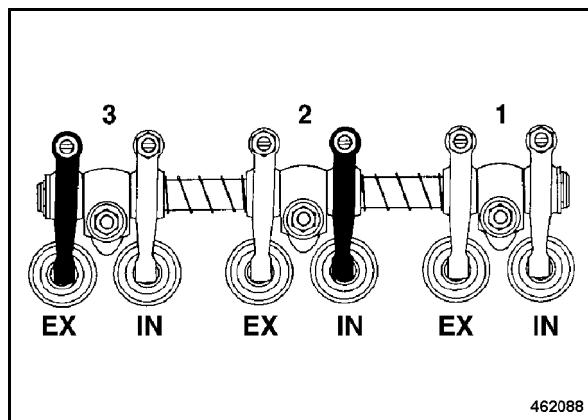

Fig. 119
- Perform the adjustment of the valve by following the adjustment diagram 1" (Fig. 119), black mark.